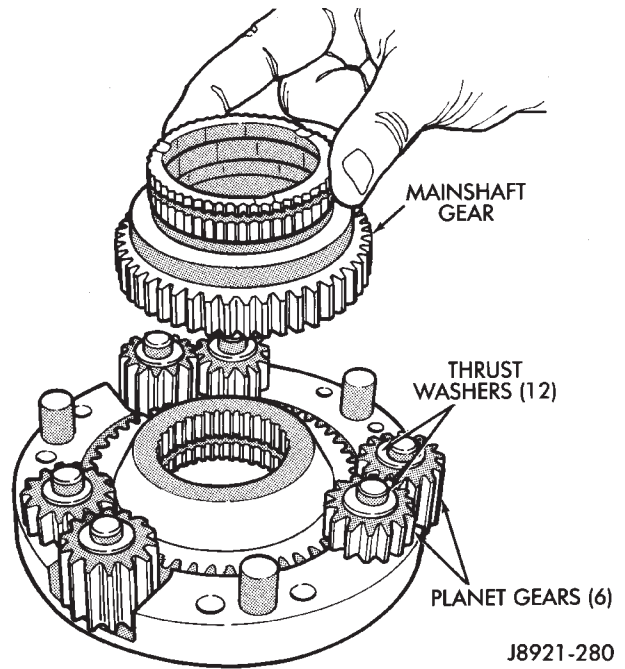

Fig. 59 Installing Mainshaft And Planet Gears
(27) Install differential planet gears and new thrust washers (Fig. 59). **Be sure thrust washers are installed at top and bottom of each planet gear.**
(28) Install differential mainshaft gear (Fig. 59).